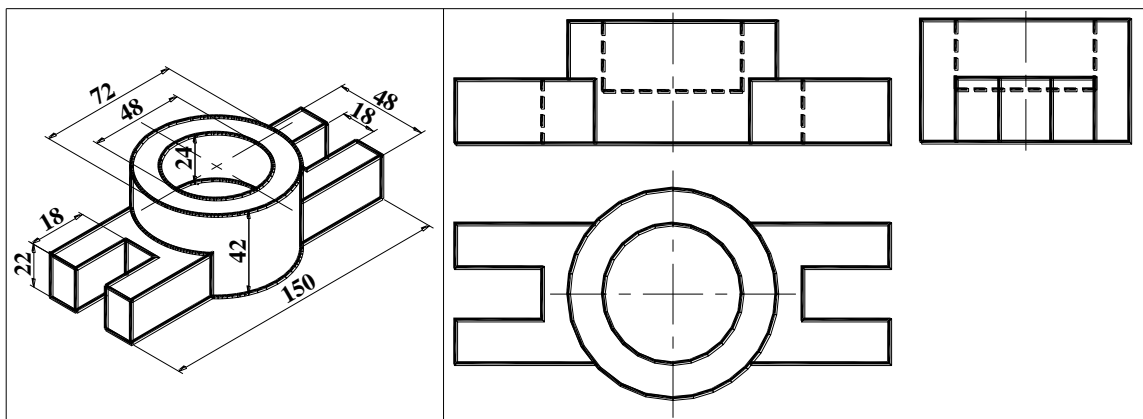

FIGURE T4.2
2. 2. FOR *FIGURE T4.2*, DIMENSION ITS ORTHOGRAPHIC VIEW BY UNIDIRECTIONAL SYSTEM OF DIMENSIONING.